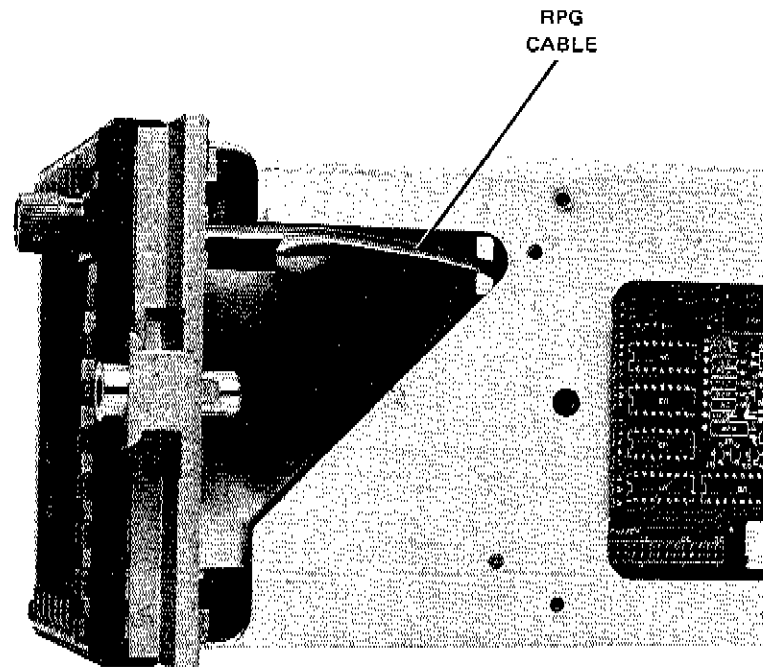

Figure 8. RPG Cable Installation
3. Route the RPG cable as shown in Figure 8, and install the keyboard assembly. Also install the display knob.